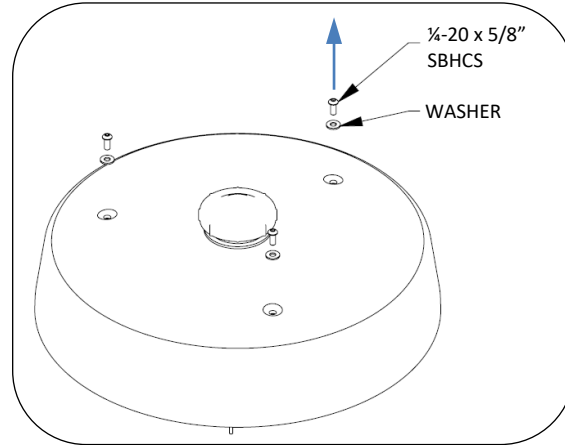

Fig. 5 – remove dome on luminaire
5. Remove dome on luminaire, see Fig. 5. Remove top three screws and washers and set aside. Set dome on non-marring surface.